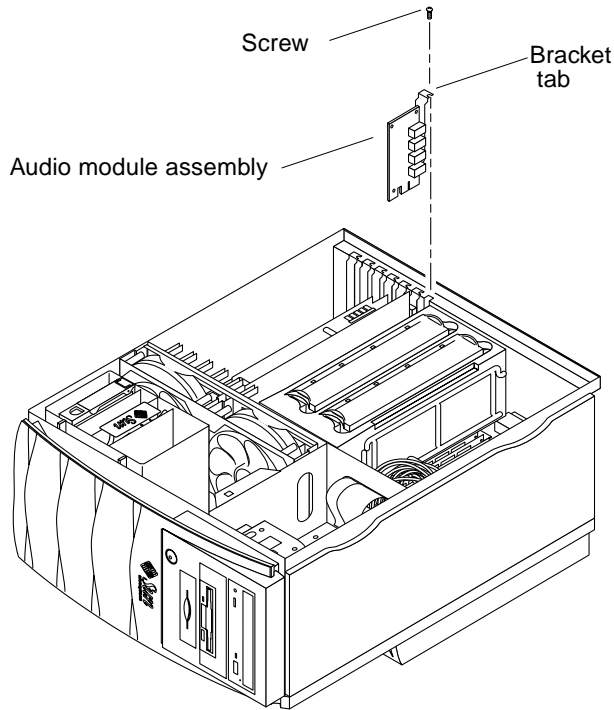

FIGURE 8-18 Removing and Replacing the Audio Module Assembly
4. **Using a No. 2 Phillips screwdriver, remove the screw securing the audio module assembly bracket tab to the workstation chassis (FIGURE 8-18).**
1. **Position the audio module assembly into the chassis (FIGURE 8-18).**